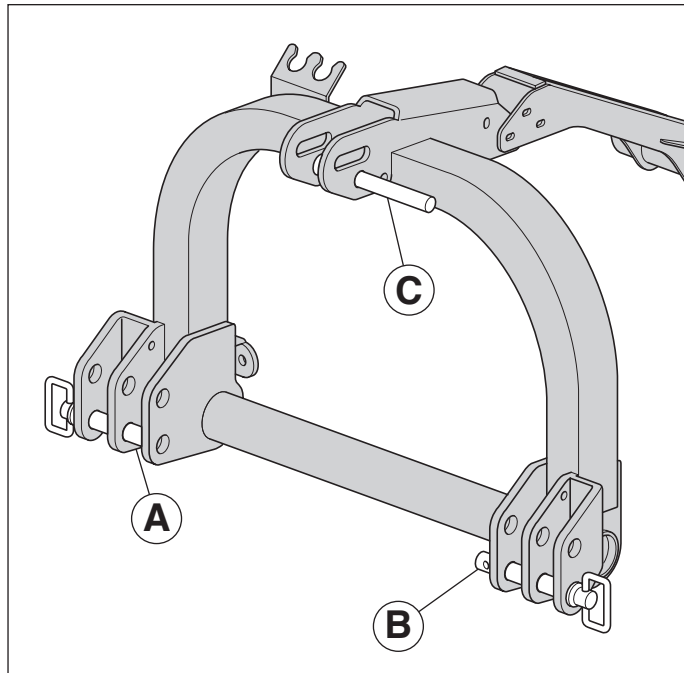

Fig. 6
1. Bring the lifter bars up close, placing them inside plates (A) and (B) (Fig.6). Insert the pin in the prepared hole and lock it with split pins.
4. Connect the high point (C) and carry out the correct adjustment with the tie-rod, verifying that the upper plane of the mower is parallel to the ground. This is very important in order to obtain parallelism between the cutter power take-off shaft axle and the tractor power take-off. Operating in these conditions means limiting the stresses on the power take-off and prolonging the duration of the Cardan shaft and the mower itself.